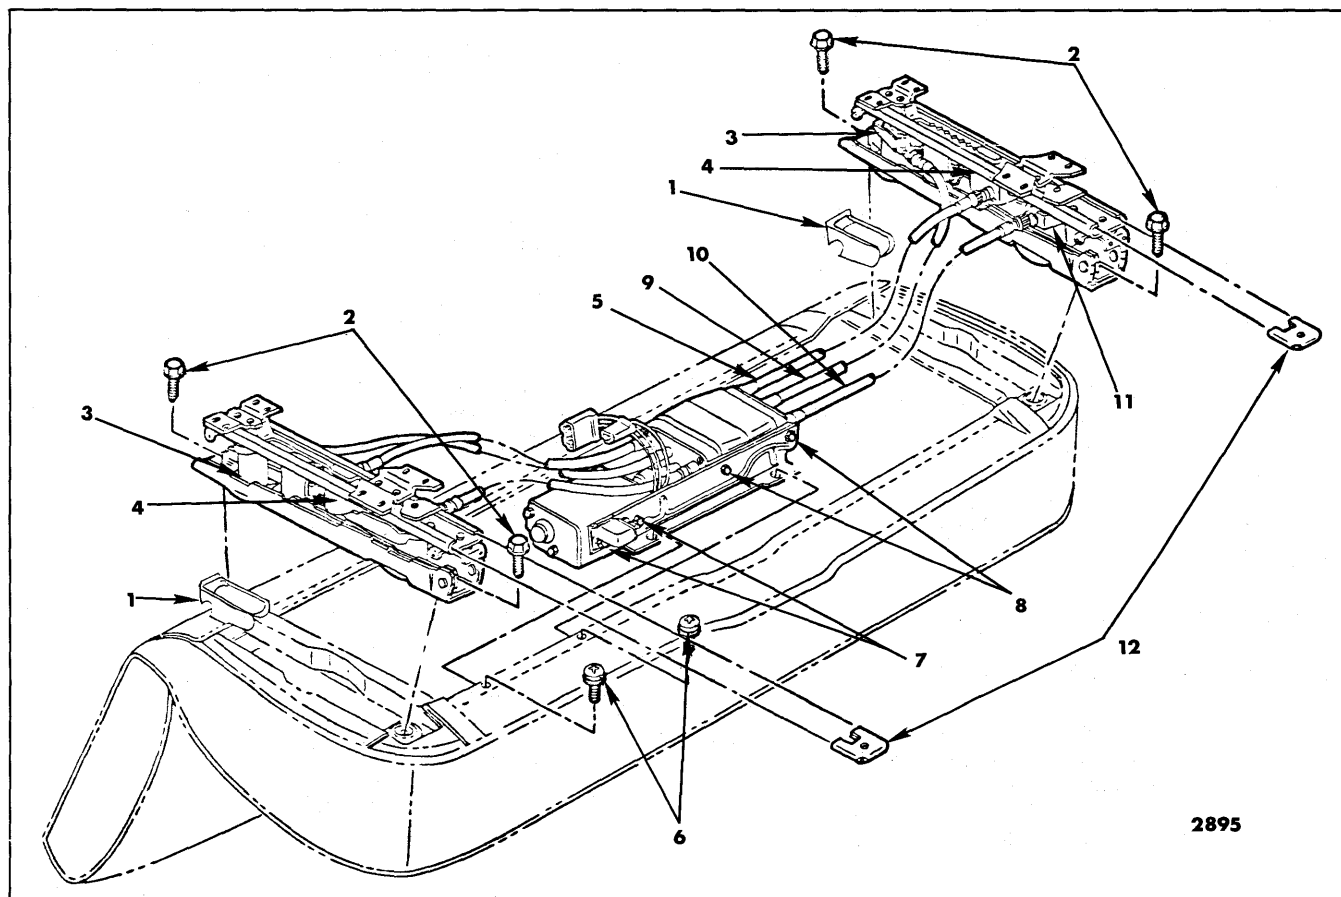

Fig. 15-16—Front Seat Assembly - Six Way - "B & C" Styles
3. Remove screws securing horizontal and vertical cable end plate on side of transmission from which cables are being removed (Fig. 15-16) and remove cables from seat assembly; then, disengage cables from end plate.
4. To install horizontal and vertical cables, reverse removal procedure. Make sure colored drive cables are installed to proper gearnuts and horizontal actuator as shown in Figure 15-16.
3. Remove screws securing horizontal and vertical cable end plate on both sides of transmission and detach cables from transmission (Fig. 15-16).
4. Remove transmission to support attaching (Fig. 15-16) bolts; then, disengage transmission from motor drive coupling and remove transmission from seat assembly.